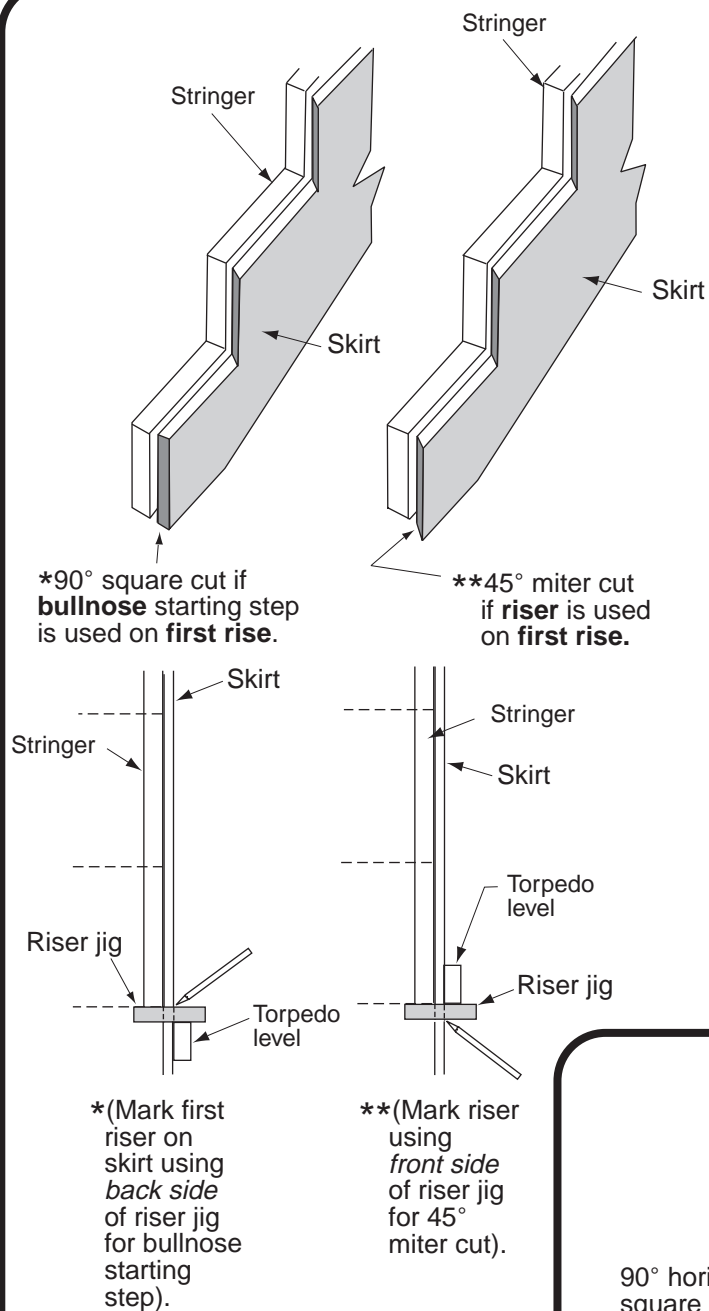

Fig. 2-5 Cutting the skirt for Starting Step or Riser.
9. Remove the skirt and using a miter saw, cut all of the vertical lines at 45 degrees. Please note Figure 2-5 here.